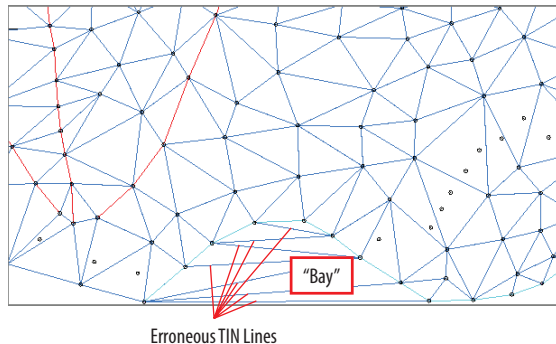

FIGURE 4.11 Erroneous TIN lines created across a bay in the surface data
As discussed earlier, boundaries are a way of defining where the surface is and where it isn't. In the example project, you don't want the surface to exist outside the area that has been surveyed. Why would the surface extend beyond the survey data? If the edge of an area represented by the points happens to bend inward, the lines will extend across the "bay" (see Figure 4.11) and will create misrepresented surface data in that area. One way to avoid or correct this situation is to provide an *outer boundary* that prevents the surface from existing in these areas.
4. In the left viewport, zoom in to the southern edge of the surface, and note the TIN lines that extend across the bend in the stream (shown previously in Figure 4.11).
5. Select one of the TIN lines, and then click **Edit Surface** > **Delete Line** on the ribbon. Select the erroneous lines as indicated previously in Figure 4.11. Press **Enter** after you've made your selection.